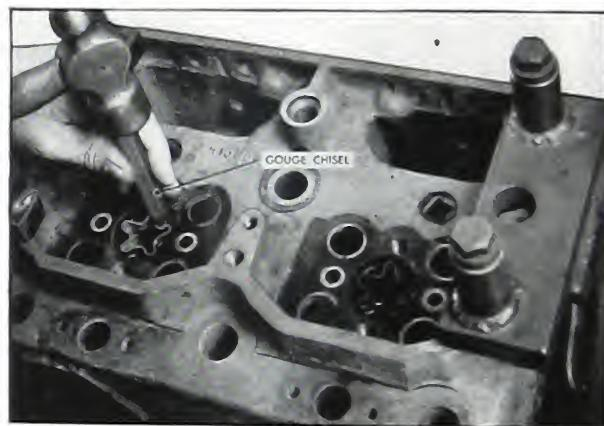

Fig. 3-4. Removing injector sleeve
5. To remove worn out sleeves, cut them from the cylinder head with a $\frac{3}{8}$ " gouge chisel at the points of sealing and drive out from the lower end. (Fig. 3-4).